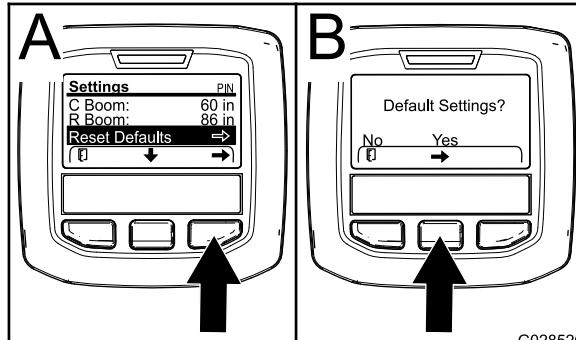

Figure 74
1. Press the center selection button to navigate to the Reset Default entry (Figure 74).
3. In the Default Settings screen, press the left selection button for No or the right selection button for Yes (Figure 74).